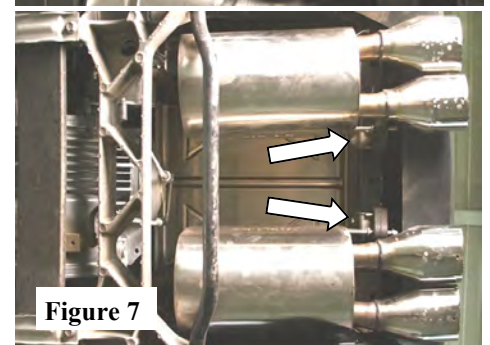

Figure 7
5. Place a clamp over each expanded ends of each Over-Axle Pipe. Starting with the R/H Muffler Assembly, and insert inlet into R/H Over-Axle Pipe and carefully insert hangars into runner isolators. Repeat step for the L/H Muffler Assembly. (See Fig. 7) DO NOT TIGHTEN HARDWARE.